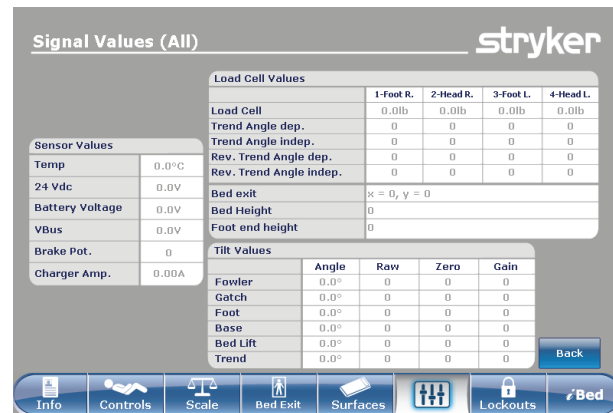

Figure 90: Signal Values
**Signal Values:** Lists all the sensors and their current signal values (Figure 90 on page 76).